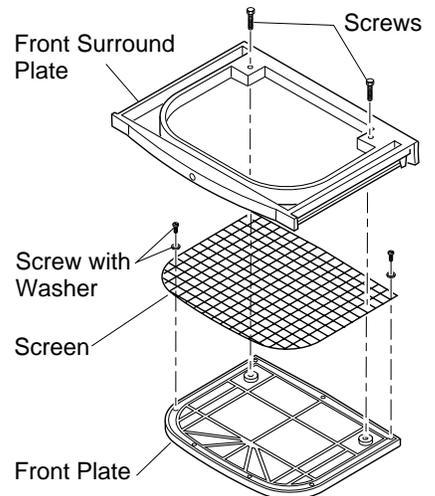

Figure 14 - Removing Screen from Front Assembly
14. **Optional Screen Removal:** Lay the front panel assembly face down on a protected surface. Remove the two screws that hold the front plate onto the front surround plate (see Figure 14). Save these screws.
15. Remove the seven screws and washers that hold the screen onto the front surround plate. Discard these screws, washers, and screen. They are required for vent-free use only (see Figure 14).